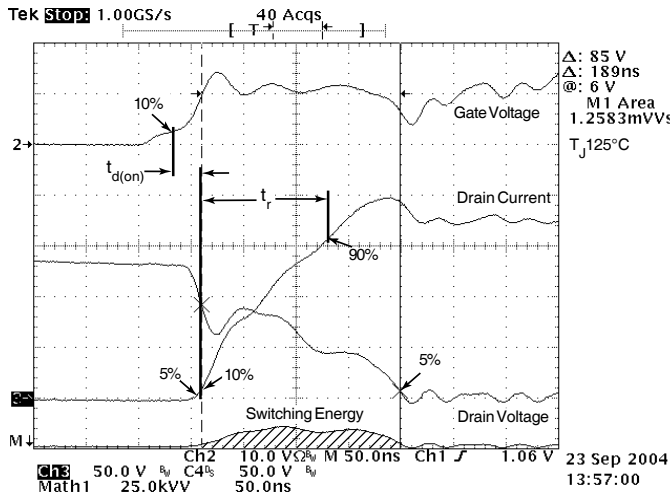

Figure 18, Turn-on Switching Waveforms and Definitions
① Repetitive Rating: Pulse width limited by maximum junction temperature
② Pulse Test: Pulse width < 380 μs , Duty Cycle < 2%
③ See MIL-STD-750 Method 3471
④ Starting $T_j = +25^\circ C$, $L = 0.23mH$, $R_G = 25\Omega$, Peak $I_L = 176A$
⑤ dv/dt numbers reflect the limitations of the test circuit rather than the device itself. $I_S \leq -I_D 176A$ $di/dt \leq 700A/\mu s$ $V_R \leq V_{DSS}$ $T_j \leq 150^\circ C$
⑥ E_{on} includes diode reverse recovery. See figures 18, 20.